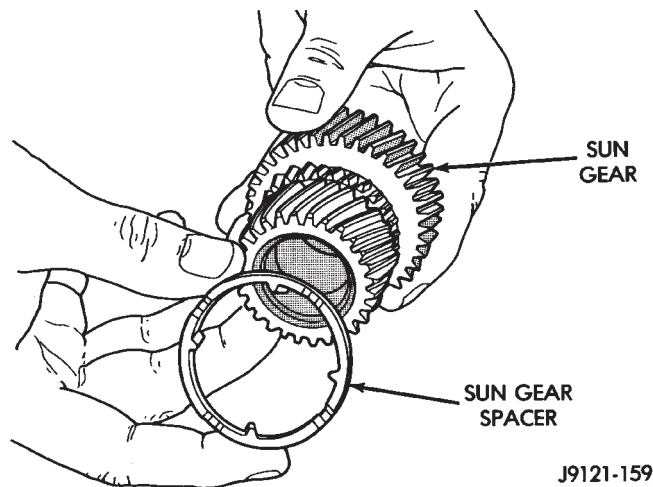

Fig. 155 Installing Spacer On Sun Gear
(7) Install spacer on sun gear (Fig. 155).